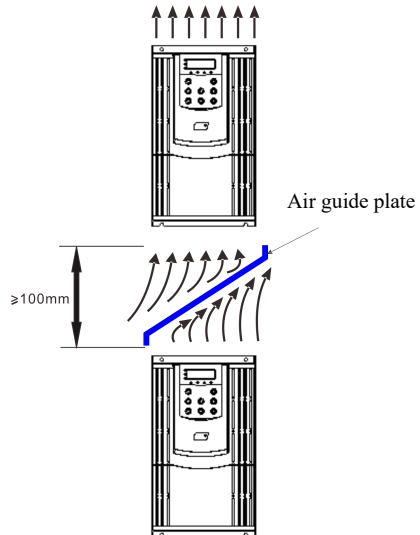

Figure 3-2 . ES100 Driver Installation Diagram.
- 1) Please install the drive vertically to facilitate heat dissipation upwards. Do not install it upside down. If there are multiple drives in the cabinet, it is best to install them side-by-side. In cases where vertical installation is required, please refer to Figure 3-2 for the diagram and install a heat insulation deflector.